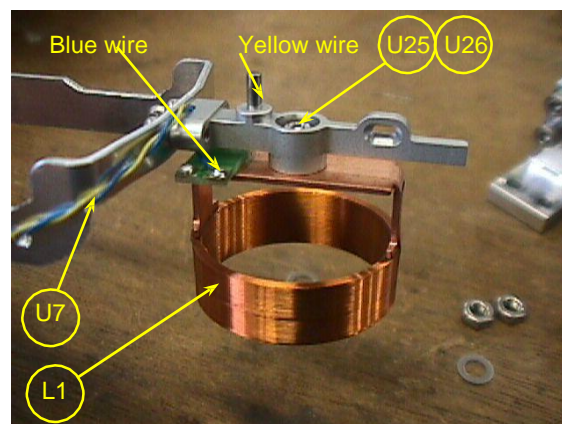

Fig.17
- Loosen the M2.5X6 screw (U25) and washer PB SPG M2.6 (U26) fixing the Force coil assy (L1) in place to detach it (Fig.17).
Note: Left hand side of Force coil assy (L1): Yellow wire; Right hand side of Force coil assy (L1): Blue wire (Fig.17)